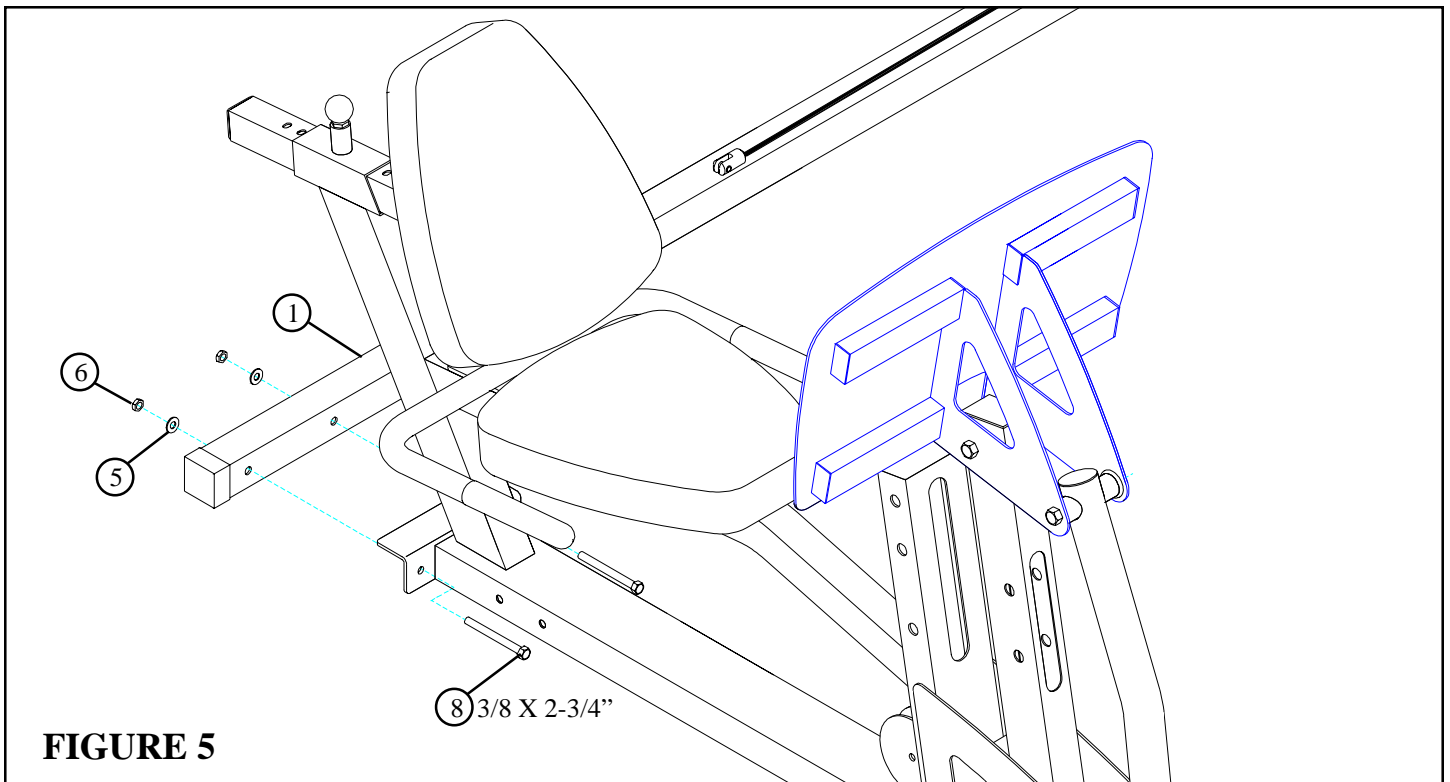

**FIGURE 4**
- **SECURELY** assemble one 3-1/2" PULLEY (3) to the FRONT LEG (1) using one 3/8 X 1-3/4" BOLT (7) and one 3/8" LOCK NUT (6). See FIGURE 4.